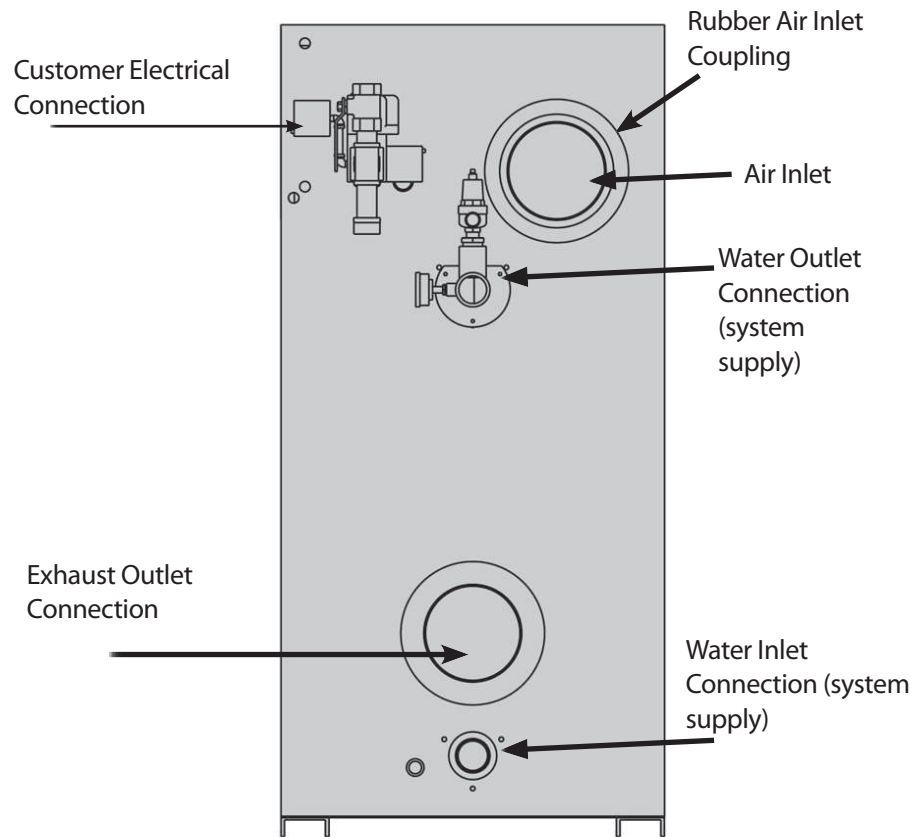

FIGURE 6 - WATER INLET AND OUTLET CONNECTIONS
5. The top water connection on the back of the boiler is the hot water outlet and must be connected as the supply to the system. The bottom connection is the return/boiler inlet. See Figure 6.